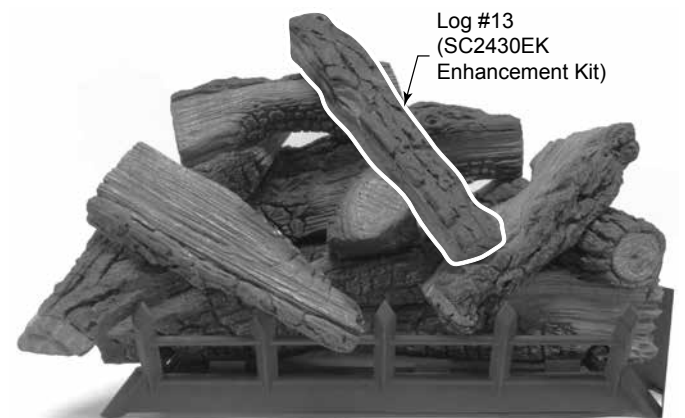

Figure 6.26 - Log #13 Placement
- Place log #13 onto log #12 and top front right log (#10) by placing notch on bottom of log onto locating block on log #12. Rest bottom of log onto log #10 and center log (#9). See Figure 6.26.